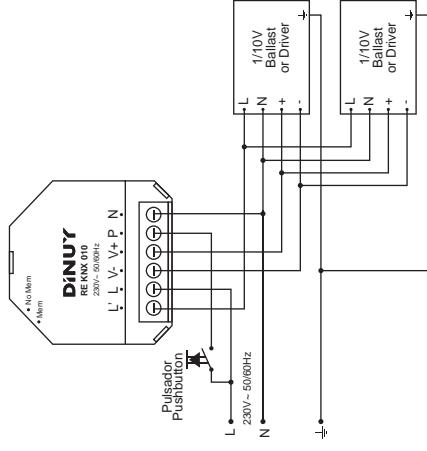

Fig. 4
- Fig. 4: Simple electrical installation with wired pushbutton (optional).